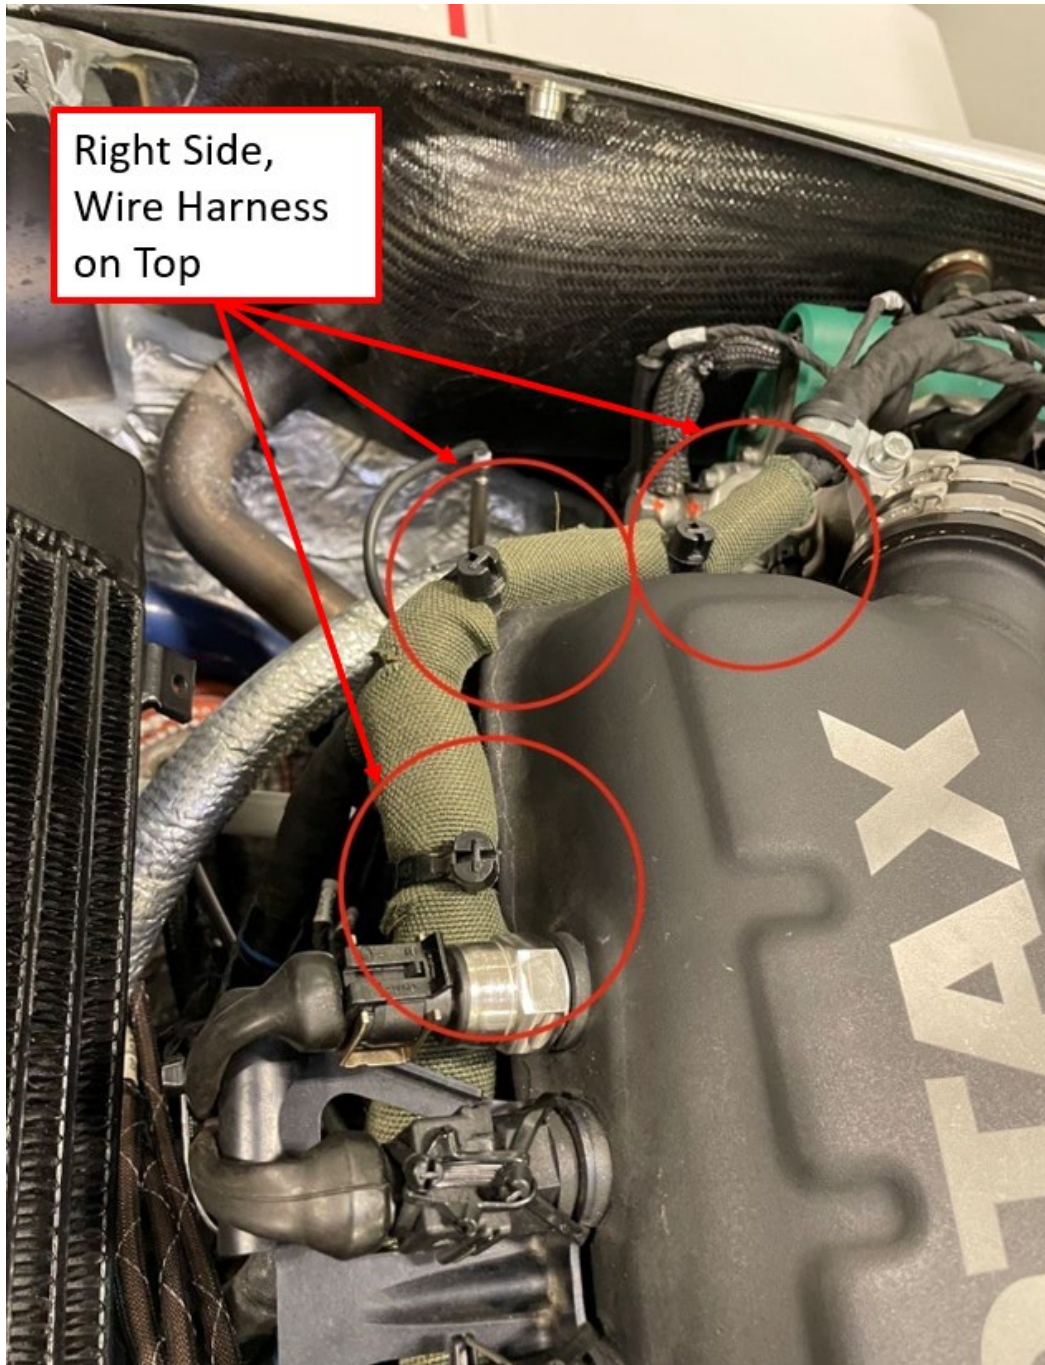

Figure 2 Right Side Kevlar on Top
- d. See Figures 2 through 4.
6. If the installation is not as shown in Figures 2 through 4, remove the five (5) cable ties at the cable tie mounts and secure as described in steps 7-9.
7. At the right side of the engine, position the wire harness on top of the cable tie mounts and secure with three (3) cable ties.
- a. See Figure 2